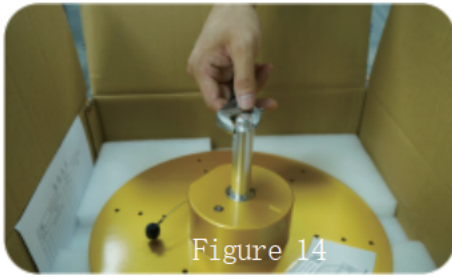

Figure 14
14. Fix terminal blocks to base plate as shown in Figure 14, refer to enclosure assembly drawing (Page P02), place terminal blocks at corresponding positions and tighten using 2 M4 Phillips screws with spring washers.
14. Install adapter rod to antenna As shown in Figure 14, screw the adapter rod clockwise into the antenna base and tighten with a wrench.